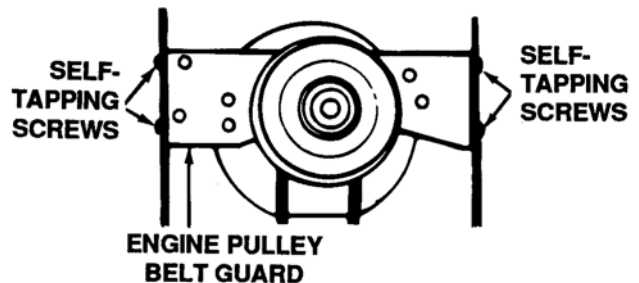

Figure 4-33. Location of Belt Guard
- c. Remove the belt keeper pins from the engine pulley belt guard. Refer to Figure 4-33.
- e. Remove the two self-tapping screws on each side of the frame which hold the engine pulley belt guard to the frame. See Figure 4-33. Remove the engine pulley belt guard by slipping it forward and down.